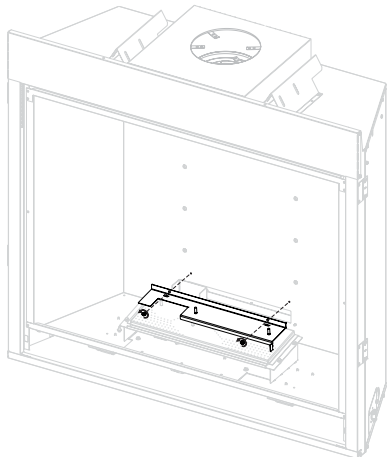

Figure 8
5. Remove log support by removing the two screws securing the metal plate to log support. **See Figure 8.**
14. Reinstall the log support and secure it with the metal plate and two screws removed in step 5. **See Figure 8.**